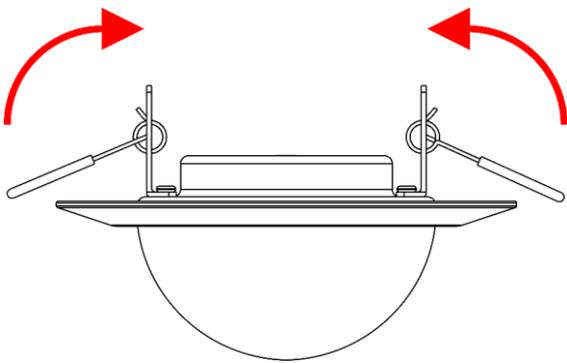
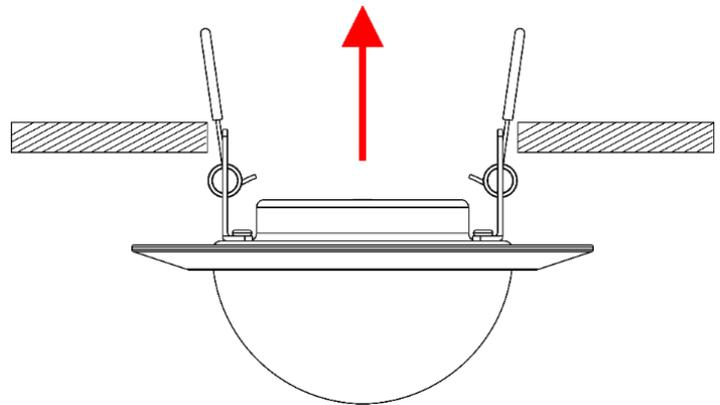

Fig. 04
Fig. 05
- 04) Fold the **spring-loaded mounting clips (02)** upwards (Fig. 04) and put the PixelDot in the mounting opening (Fig. 05).